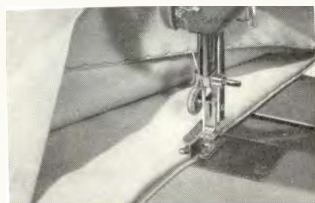

Fig. 34.
Perhaps you've just finished a dress and have only the hem left to complete. You think, maybe, that you ought to do this by hand so that it shows as little as possible? Well you don't have to, you know! Use your Husqvarna Automatic. If you fit a special blindstitching attachment plate S 15818 (Fig. 34) and pattern cam set D, you can sew a hem which is almost completely invisible on the right side. Both these attachments are available, at extra cost. Do it like this:
1. Insert pattern cam set D and fix blindstitching plate with presser foot screw (2, Fig. 1). The plate must be attached so that it covers the left part of the standard presser foot (Fig. 34).
3. Fold a hem and then turn it with the right sides of the material facing one upon the other. Allow the edge of the hem to project about 1/8 in. (3 mm) beyond the fold (see Fig. 34).